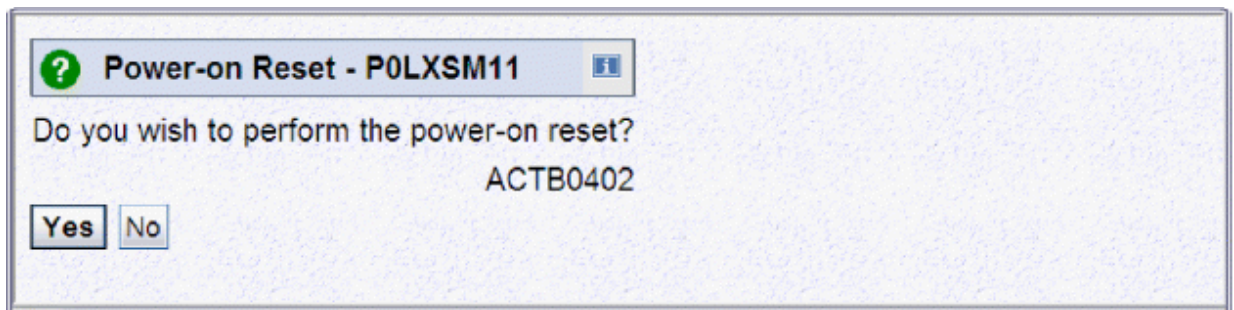

Figure 9. Power-on Reset confirmation window
3. Make sure that the appropriate input/output configuration data set is selected, and click **Perform Power-on Reset**. A Power-on Reset confirmation window is displayed. Figure 9 on page 7 shows this window.